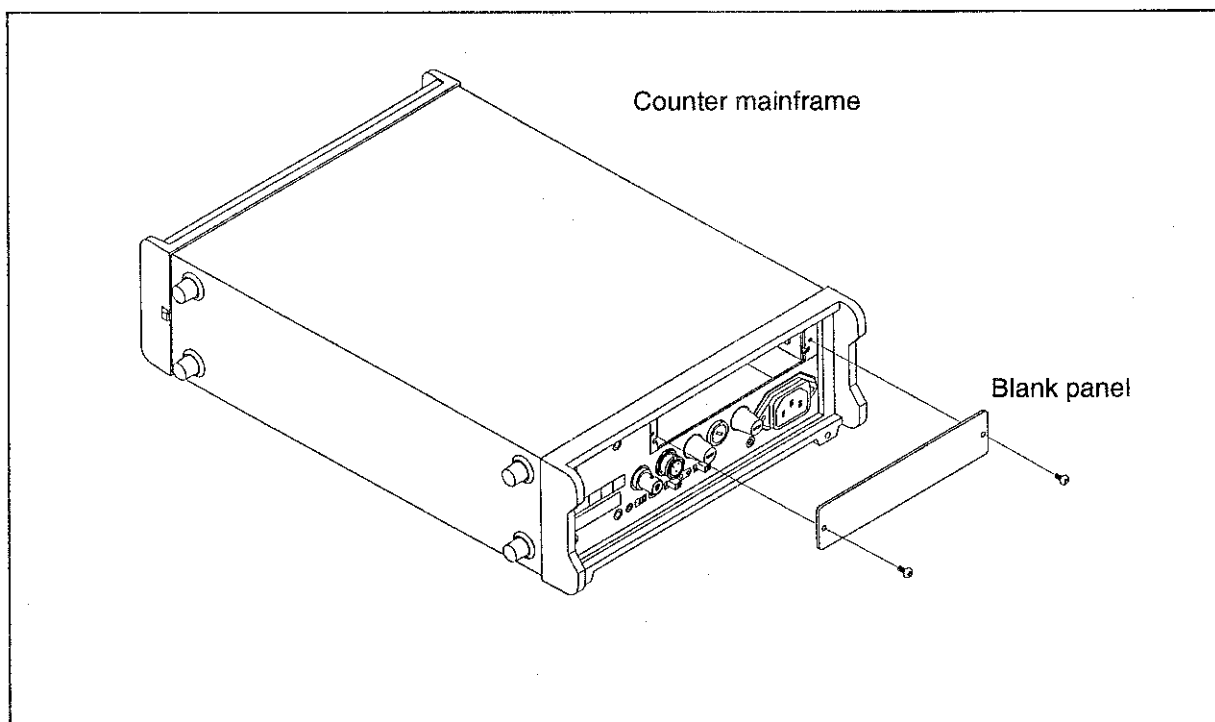

Figure 9-3 Removing the blank panel
- ① Set the counter STBY switch to , then disconnect the power cable from the rear socket of the counter.
- ② Remove the blank panel from the rear of the counter. (See Figure 9-3.)